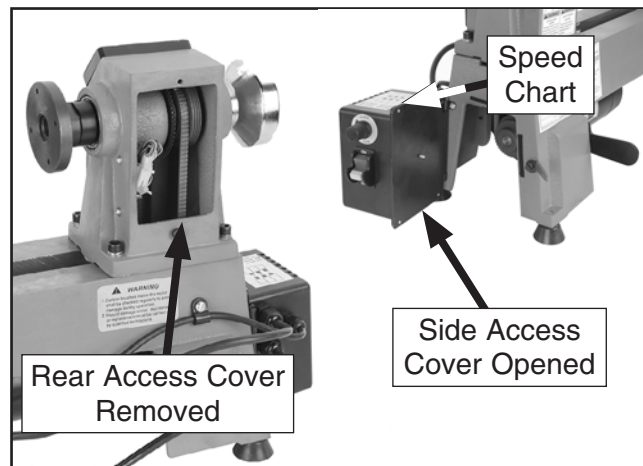

Figure 18. Side and rear access covers.
3. Open side access cover and remove rear access cover (see **Figure 18**).